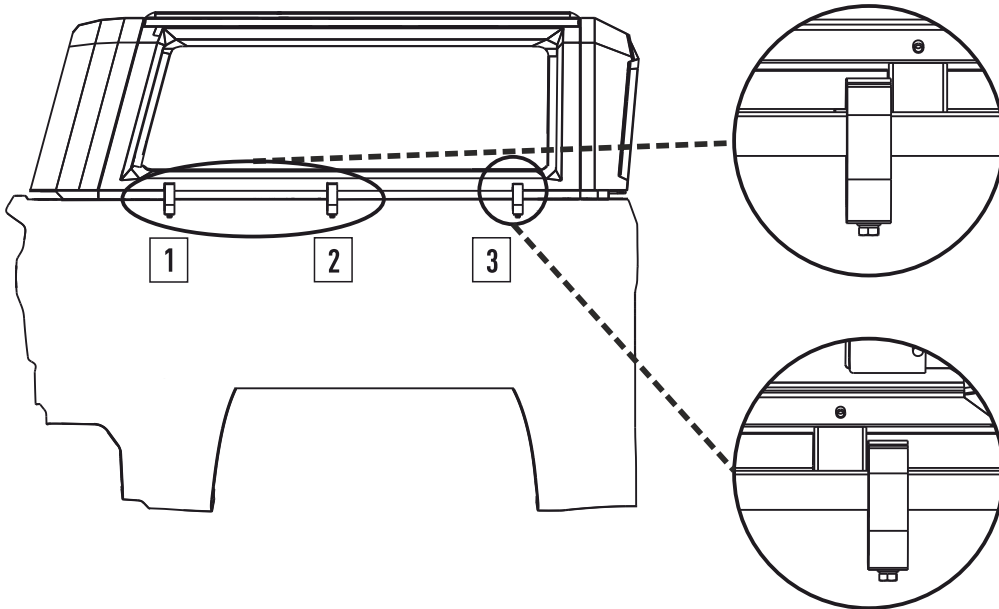

FIGURE 3
3. ONCE THE SMARTCAP IS CENTERED, PLACE CLAMPS IN POSITION. (SEE FIGURE 3)